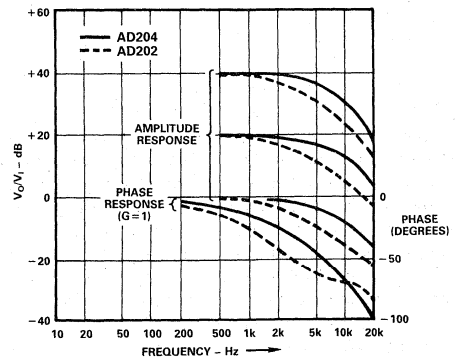

Figure 11. Frequency Response at Several Gains
**Dynamics and Noise.** Frequency response plots for the AD202 and AD204 are given in Figure 11. Since neither isolator is slew-rate limited, the plots apply for both large and small signals. Capacitive loads of up to 470pF will not materially affect frequency response. When large signals beyond a few hundred Hz will be present, it is advisable to bypass pins 5 and 6 to pin 2 with 1μF tantalum capacitors even if the isolated supplies are not loaded.